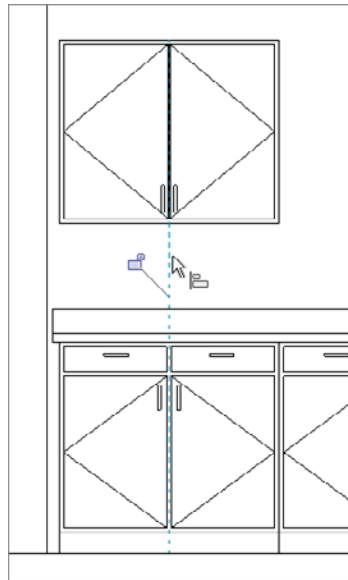

FIGURE 9.66 Aligning the wall to the base
6. Align the wall cabinet to the base cabinet, as shown in Figure 9.66.